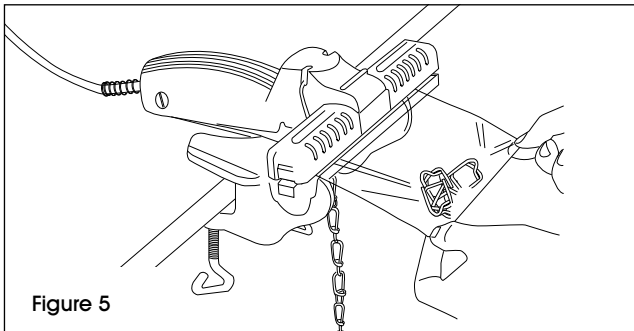

Figure 5
2. Once the unit is warmed up, insert bag into the mouth of the sealer and apply pressure to the foot pedal to seal the bag. (See Figures 5 and 6)